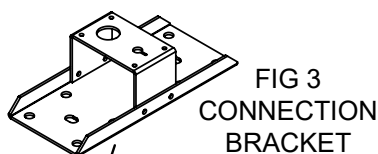

FIG 3
- Start with the section that has the power supply cable. Ensure that there is a connection bracket on both ends (see fig 3 one may need to be moved from a other segment)